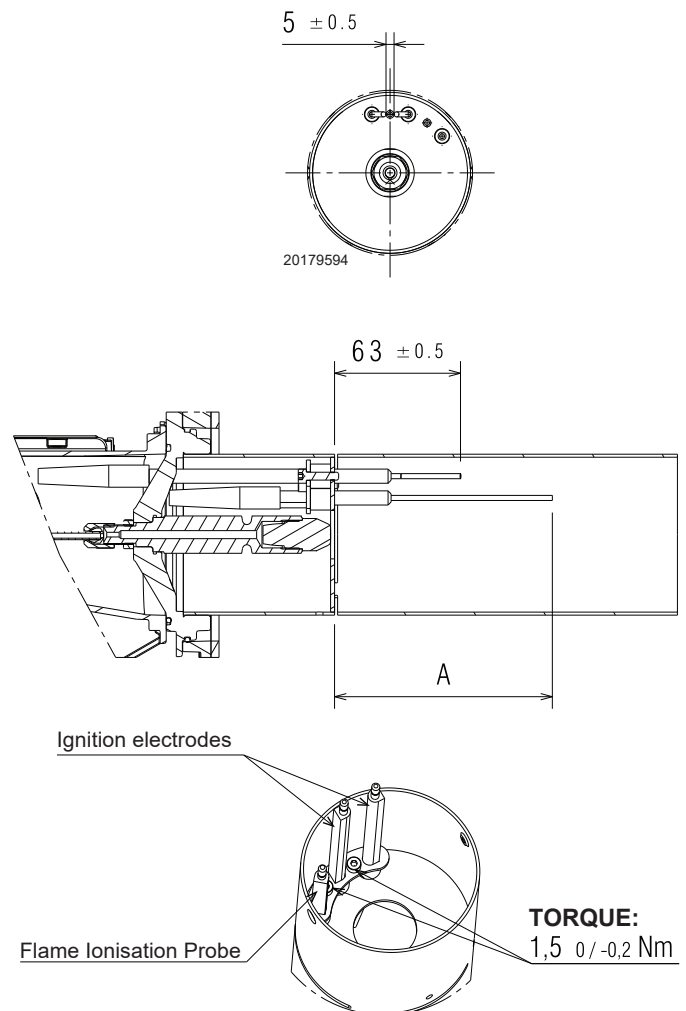

Figure 10-4: Ignition electrode and flame ionisation probe settings
5. Check/adjust both the electrode and flame ionisation probe settings. Refer to Figure 10-4.
Table 10-1: Ionisation probe length (refer to Figure 10-4)